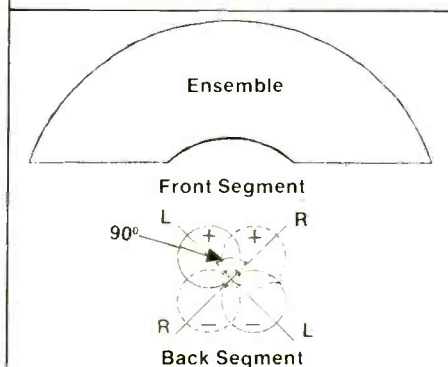

Figure 4: Blumlein
1. New ideas are not necessarily better, nor should our industry revere old concepts simply because of their age. Rather, new and old ideas alike should be constantly re-evaluated for validity. It is interesting to note that there is a resurgence of interest in the work of the British inventor Alan D. Blumlein, who patented a coincident technique in 1931. Figure 4 shows the layout of the Blum-